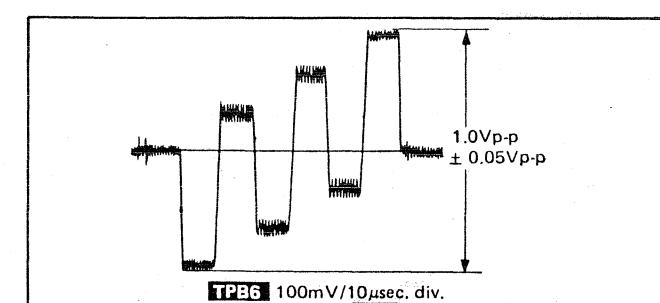

Fig. 9
6. Adjust R619 (Sub. Chroma) so that the **TPB6** becomes  $1.0Vp-p \pm 0.05Vp-p$  as shown in Fig. 9.